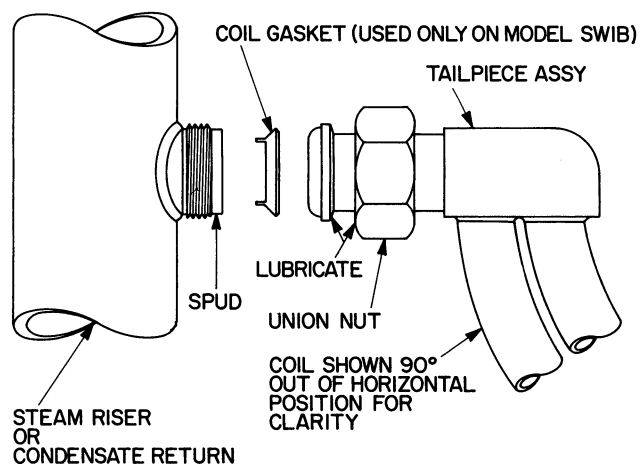

Figure HE-107-10 -- Assembly of Coil to Steam Riser or Condensate Return
- See Figure HE-107-10. Before the coils to the Riser or Return spuds, wrap each spud with Teflon tape and apply a lubricant (grease) to the back of the union nuts and shoulders on the coil tail pieces (see Figure HE-107-10). Rotate the nuts to spread the grease.